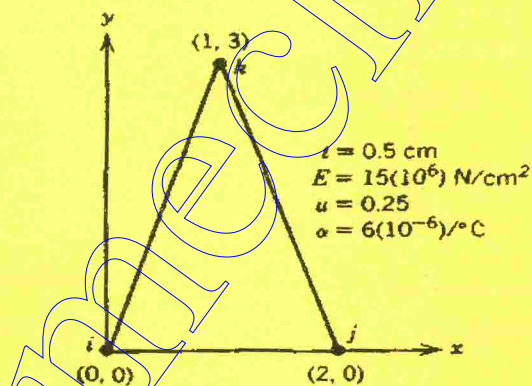

Figure 7 Triangular elastic elements
- (b) Determine the element stiffness matrix and the thermal load vector for the plane stress element shown in Figure 7. The element experiences 20°C increase in temperature. Take $E = 15 \times 10^6$ N/cm², $\gamma = 0.25$, $t = 0.5$ cm and $\alpha = 6 \times 10^{-6}/^\circ\text{C}$.